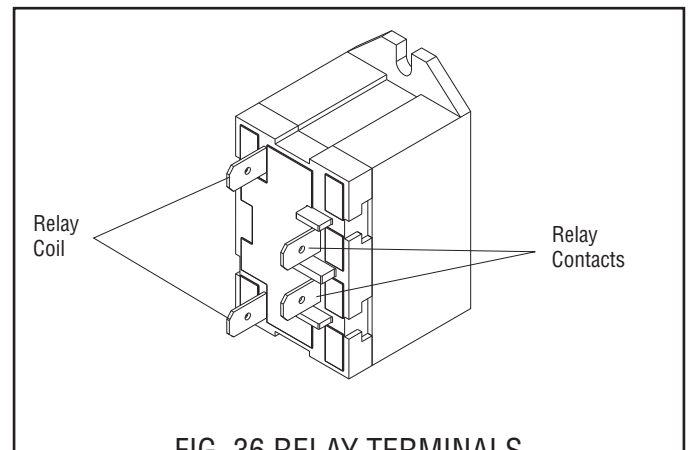

FIG. 36 RELAY TERMINALS
4. Refer to Fig. 36 to reconnect the wires.